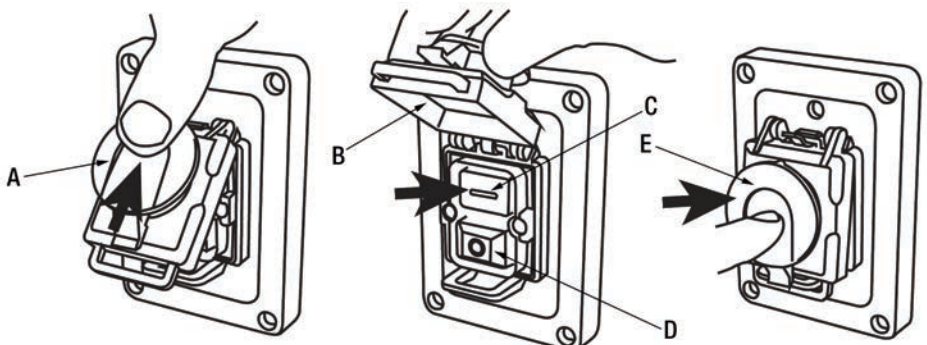

FIGURE 3
This Metal Dust Collector comes with a 2 step activation safety switch, refer to Fig.3, which starts and stops the machine.
1. Push up on the emergency stop button (A) Fig.3 and lift the switch cover (B) upwards as shown.
2. Press the green On button (C) to start the Metal Dust Collector.
3. To stop the Metal Dust Collector, you can either press the red Off button (D) or lower the switch cover and push the large emergency stop button (E).